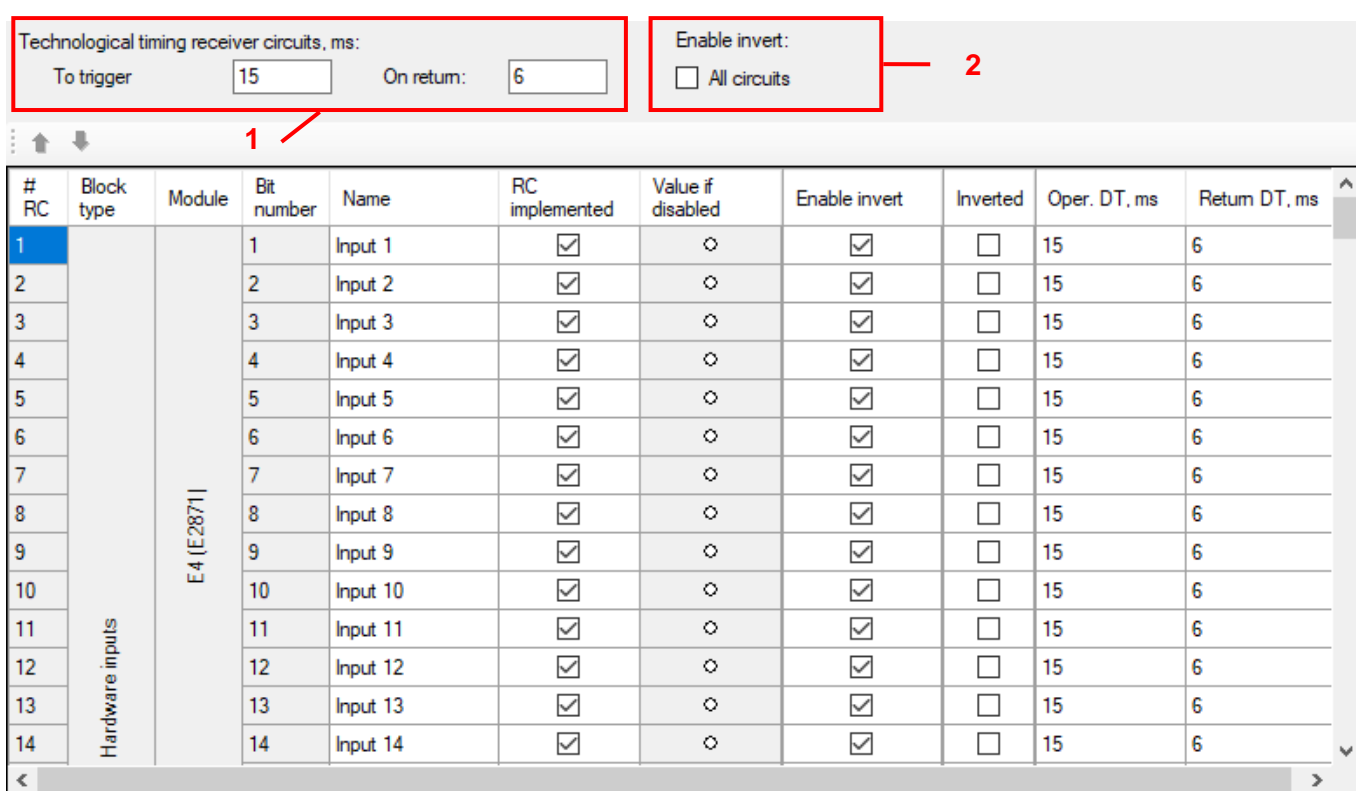

Figure 158 – **Binary inputs** window
The **Binary inputs** window, device tree menu **Hardware part** → **Binary inputs** (figure 158), is designed for configuring binary inputs of the device (circuits of binary input and virtual input modules).
Allows you to set the total value of time delays for operate and return for all inputs (figure 158, item 1).
Enable inverting (figure 158, item 2): All inputs – when the box is checked, binary inputs of all modules are enabled for inverting.